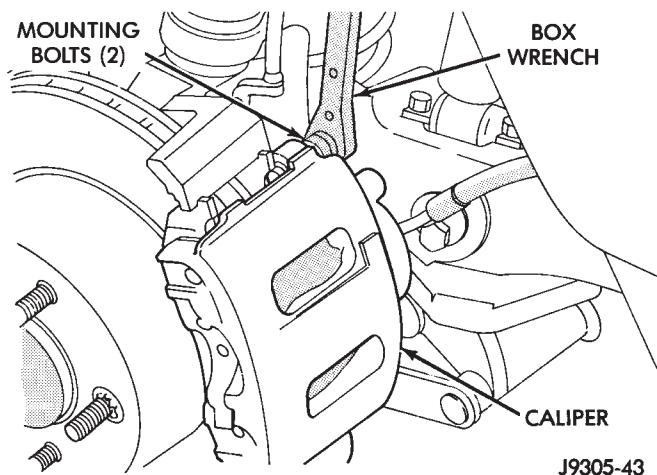

Fig. 2 Removing/Installing Caliper Mounting Bolts
- (4) Remove caliper mounting bolts (Fig. 2).
- (1) Raise vehicle and remove front wheels.
- (2) Remove caliper mounting pins (Fig. 2).